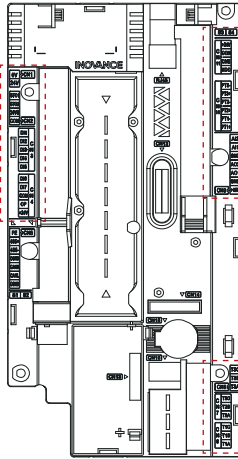

Figure 4-7 Removing control terminal cables
3. Remove the cables connecting to the control circuit terminals ①, ②, ③, and ④ (terminals as shown in the dashed box in *"Figure 4-7 Removing control terminal cables" on page 21*) of the AC drive.